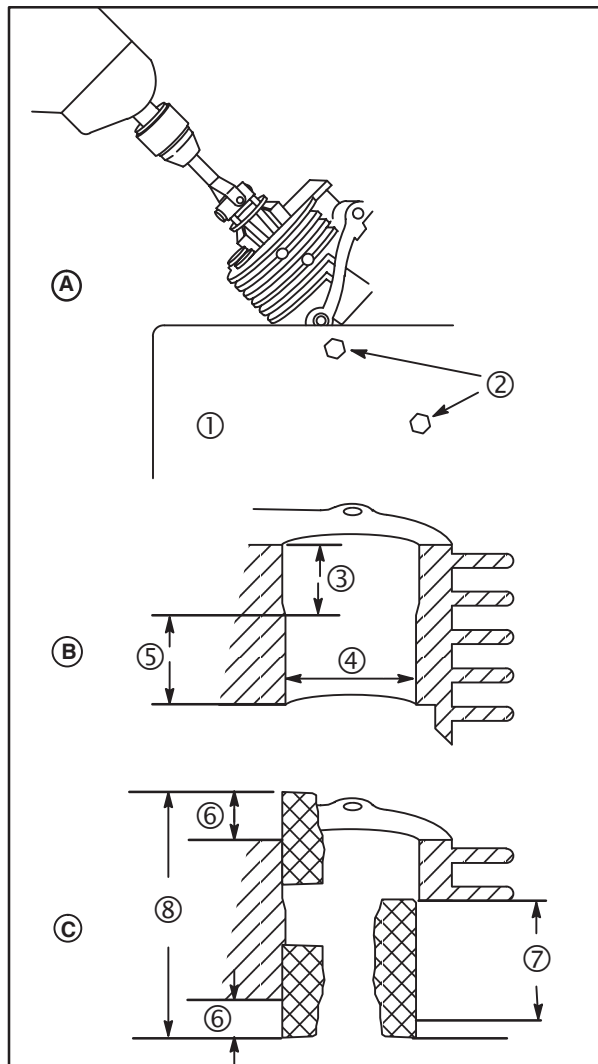

Fig. 3
1. Use crankcase cover mounting screws (2) to fasten cylinder to a honing fixture (1), **Fig. 3(A)**.
Lubricate hone as recommended by hone manufacturer. The recommended drill speed is **300 – 700 RPM** and **40 - 60 strokes per minute**. Because cylinder bores normally wear only in the area of ring travel (3), the cylinder bore will be round above and below ring travel area, **Fig. 3 (B)**. Start drill and, as hone spins, move it up and down (7) at the bottom of the cylinder bore (4). Gradually increase the length of the strokes until hone travels full length of cylinder bore (8), but no more than **3/4 – 1" (19 – 25 mm)** above or below (6) cylinder bore, **Fig. 3(C)**. Lubricate hone frequently to prevent build up on stones.